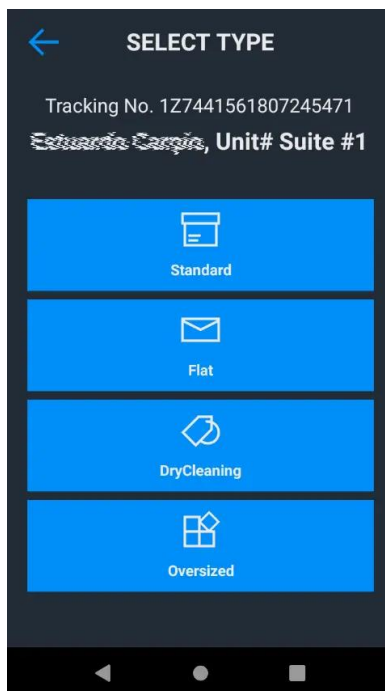

Figure 15: Select type of package
5. Tap the **type of package** being delivered: Standard, Flat, Oversized, Dry Cleaning, etc. See Figure 15. This indicates in what area within the room the package will be placed.